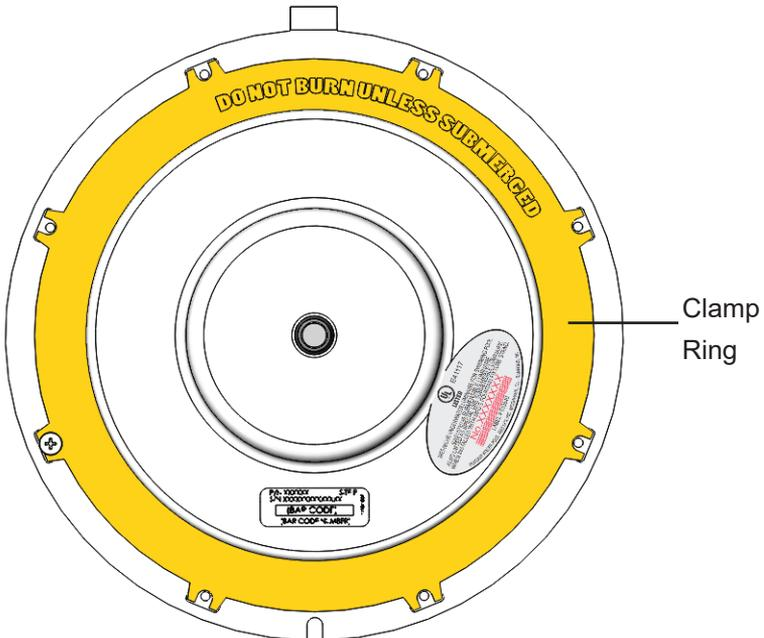

Figure 3.
- Rotate the clamp ring so that the slots on the outer edge line up with the threaded holes of the grille as shown in Figure 3. Lastly, ensure clamp ring is flush with the grille.